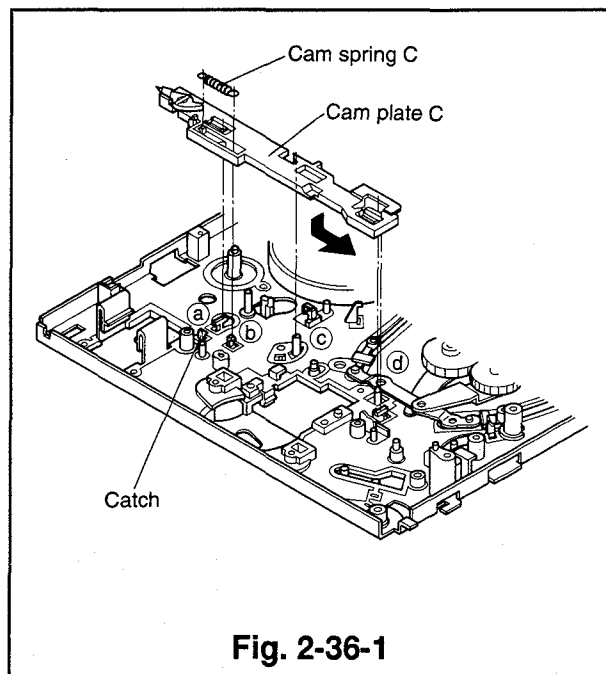

Fig. 2-36-1
- ① Remove the reel belt and the belt pulley. (Refer to Para. 2-28 for the removal method.)
- ② Remove the reel idler assembly. (Refer to Para. 2-35 for the removal method.)
- ③ Remove the loading motor assembly (which holds the motor holder). (Refer to Para. 2-29 for the removal method.)
- ④ Remove the main gear-J. (Refer to Para. 2-30 for the removal method.)
- ⑤ Remove the plate-J, the roller-B, and the cam plate-B. (Refer to Para. 2-33 for the removal method.)
- ⑥ Remove the cam spring-C. (Refer to Fig. 2-36-1.)
- ⑦ Slide the cam plate-C to the left end.
- ⑧ Unfasten the catch and raise the cam plate-C to remove it. (refer to Fig. 2-36-1.)
- ② Position the cam plate-C so that the four points(a),(b),(c) and (d) shown in Fig. 2-36-1 enter into the matching holes and slide it to the right end.
- ③ Install the cam spring-C.
- ④ Install the cam plate-B, the roller-B, and the plate-J. (Refer to Para. 2-33 for the installation method.)
- ⑤ Install the main gear-J. (Refer to Para. 2-30 for the installation method.)
- ⑥ Install the loading motor assembly(which holds the motor holder). (Refer to Para. 2-35 for the installation method.)
- ⑦ Install the reel idler assembly. (Refer to Para. 2-35 for the installation method.)
- ⑧ Install the belt pulley and the reel belt. (Refer to Para. 2-28 for the installation method.)